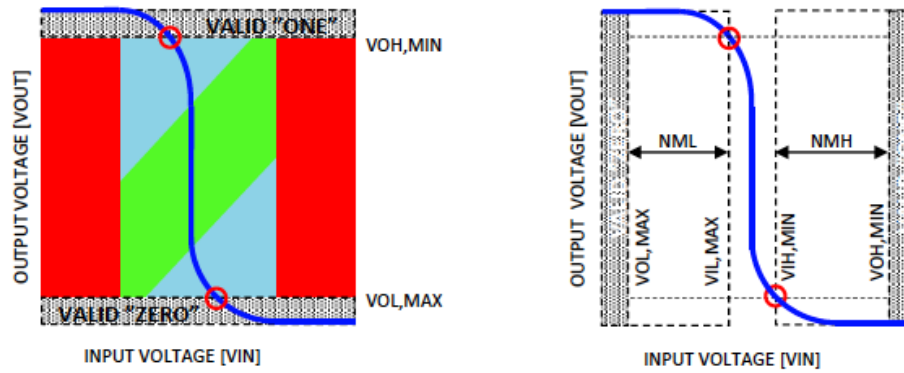

Figure 5.4: The The definition of noise margins.
- a) Derive expressions for the low and high noise margins, NML and NMH, as defined in the Figure 5.4 using the following expressions for  $(V_{OL,max}, V_{IH,min})$  and  $(V_{OH,min}, V_{IL,max})$ :